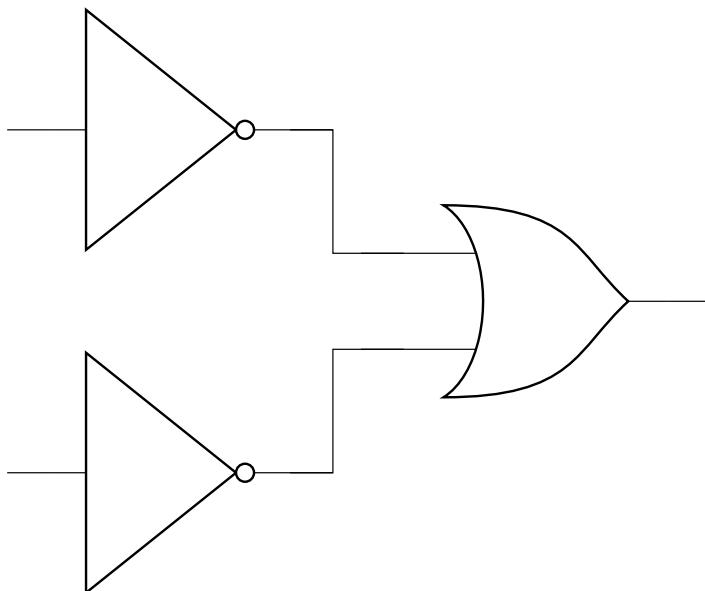

Fig. 3.18: combination circuit
34. The following combination of logic gates in Fig. 3.18 represent the operation (GATE PH 2021)